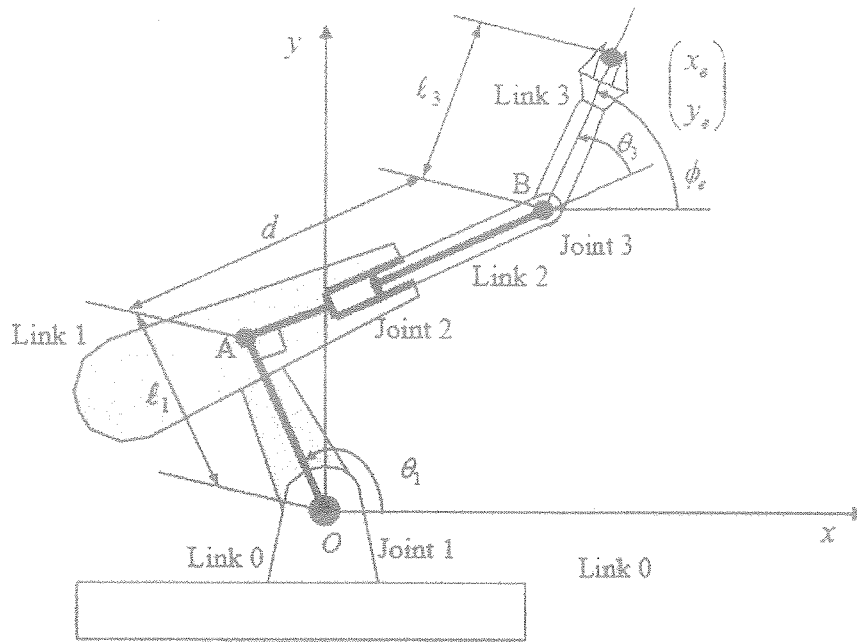

Figure Q3(a): RPR serial link robot manipulator
Q3. a) An RPR serial link robot manipulator is shown in Figure Q3(a). Angle between OA and AB is fixed to 90 degrees. If length of the first link (OA) and the last link are l_1 and l_2 , respectively and displacement of link 2 is d ,